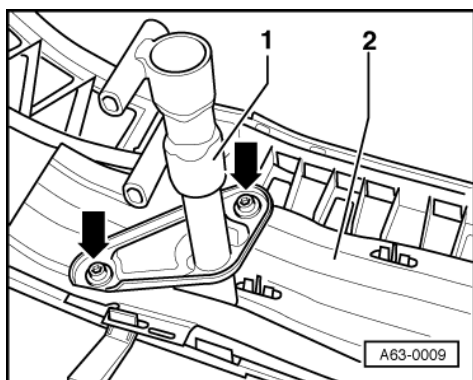

Fig.1 -> Removing impact absorber from bumper
- ♦ Removing from bumper =>Fig. 1.